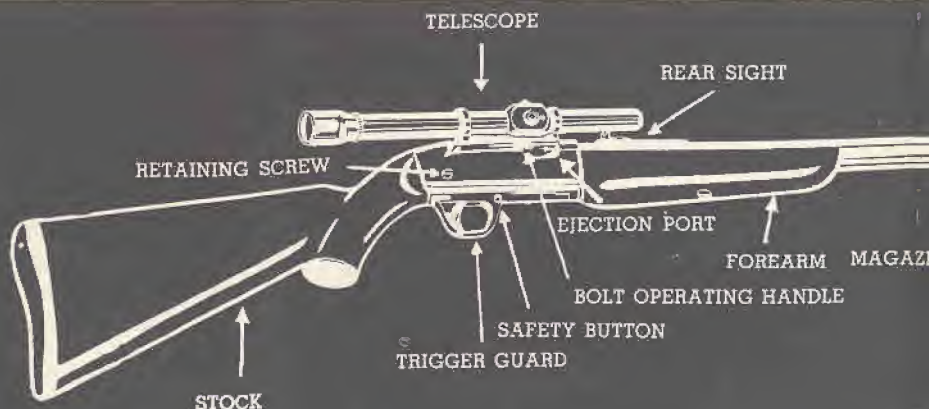

FIG. 1
**TO ASSEMBLE J. C. HIGGINS 4-X TELESCOPE SIGHT TO RIFLE:** Engage mating slot on telescope mount with mating slot on receiver top. The eye piece of the scope should be to the rear and slide forward against the stop. Tighten scope mounting screw and the assembly is complete. (See figure 1).